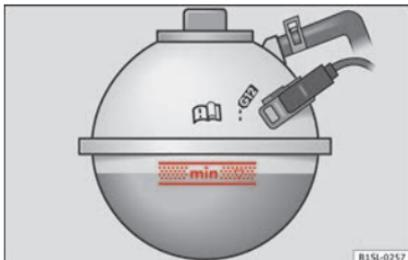

Fig. 244 In the engine compartment: Marking on coolant expansion tank
- When the engine is cold, check the coolant level using the side marking on the expansion tank » » » Fig. 244.
- The engine coolant level should be between the marks on the coolant expansion tank » » » Fig. 244. **Do not exceed the top level of the marked area** » » » ⚠.
- Only top up coolant to the top level of the marked area » Fig. 244. Otherwise the excess coolant will be forced out of the cooling system when the engine is hot, causing damage.